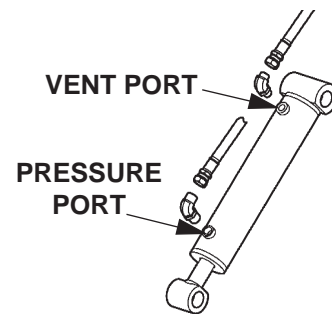

FIG. 75-1
4. Check the Hydraulic Cylinder. With the Platform on the ground, remove the Breather Plug or Vent Line from the Vent Port of the Cylinder (**FIG. 75-1**). Raise the Platform even with the bed. Allow pump motor to run two seconds more while you watch for hydraulic fluid at the Vent Port. A few drops of hydraulic fluid escaping the Vent Port is normal; however, if it streams from the Vent Port, Piston Seals are worn. Replace Seals.